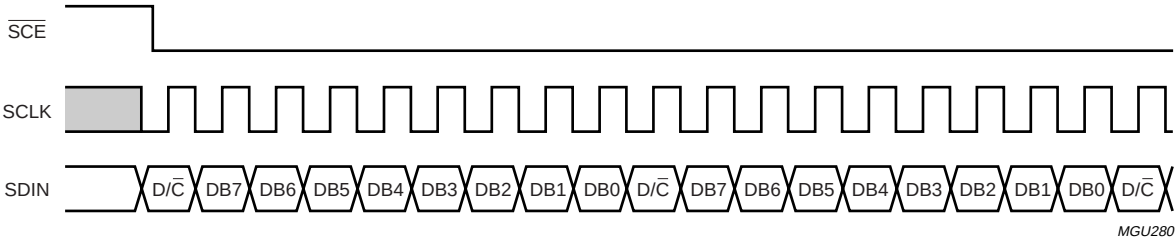

Fig.13 Write mode: transmission of several bytes.
- If $\overline{\text{SCE}}$ stays LOW after the last bit of a $\overline{\text{command}}$ or data byte, the serial interface expects the $\text{D}/\overline{\text{C}}$ bit of the next byte at the next rising edge of SCLK (see Fig.13)